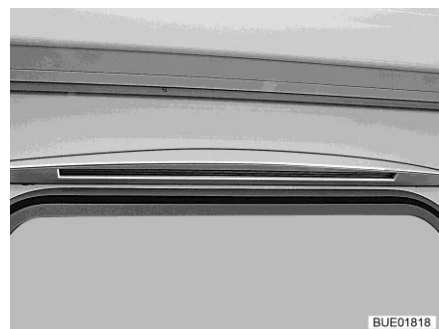

Fig. 79 Awning light
- Awning lights (Fig. 79) (partially special equipment)